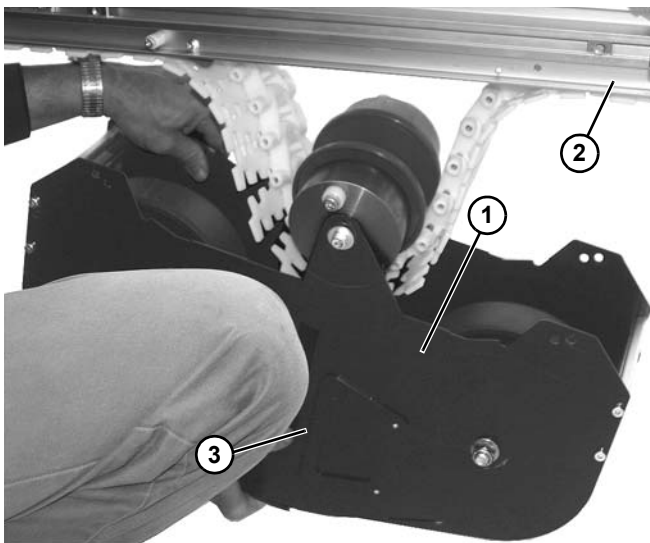

Figure 147
2. Lower weighted take up assembly (**Figure 147, item 1**) from conveyor (**Figure 147, item 2**) by disengaging locking teeth (**Figure 147, item 3**) on both sides.